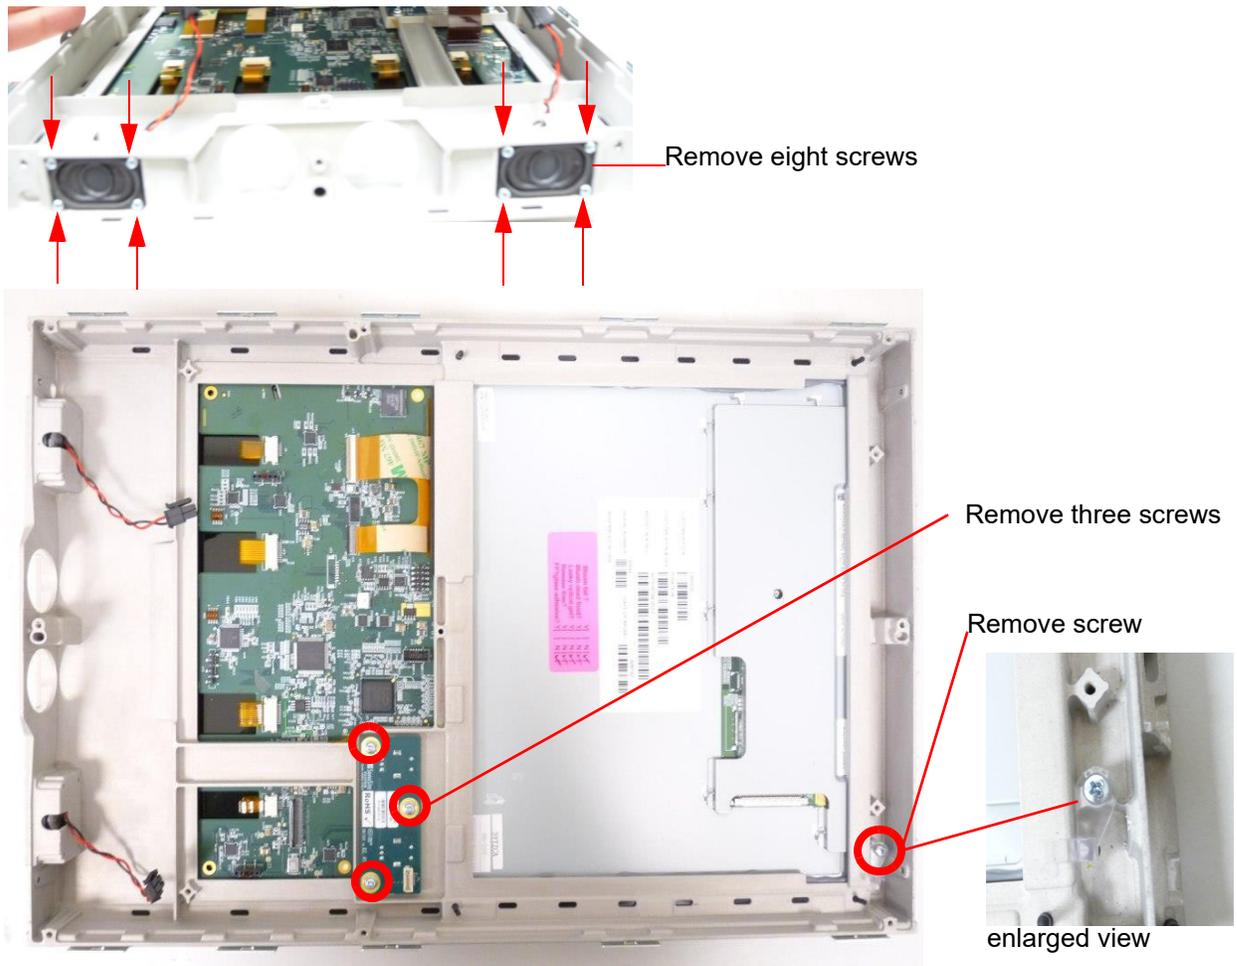

Figure 6.6 User Interface speaker, TGC and light pipe removal
- 2 Remove four screws in each speaker and gently pull speakers from midframe per Figure 6.6.
- 3 Remove three screws from TGC and lift from midframe per Figure 6.6.